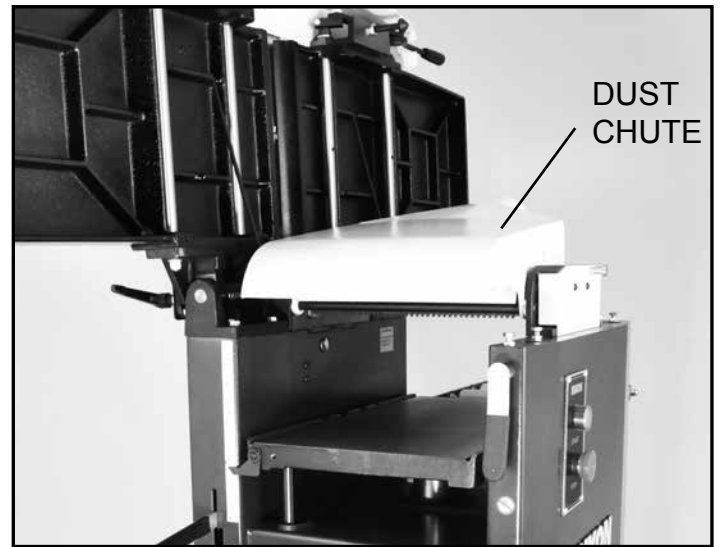

FIG. 24
2. The jointer table, with the fence and cutterhead guard, needs to be lifted up and back into a vertical position. See page 21, steps 1 & 2, for full details on this process. The Dust Chute (#66) should be pivoted up onto the infeed table in the planing use position, so adjustments can be made. FIG. 24.